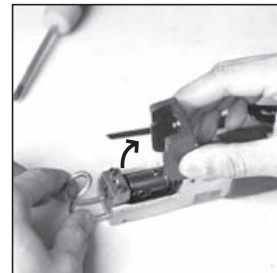

Figure 2
- (2) Open the chuck cover (Part #39). (See Figure 2)